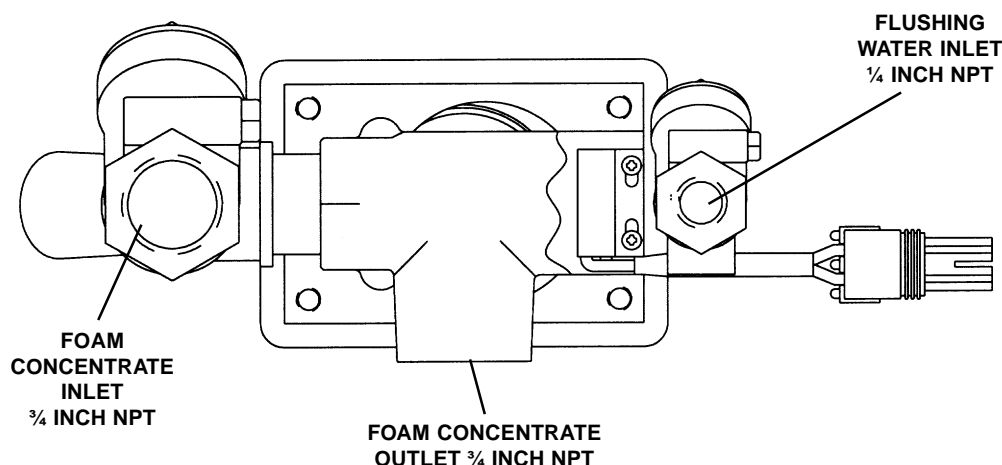

Figure 5. Hale FoamMaster MST Flush Selector Valve (Back View)
8. Install brass, 300 series stainless steel or nylon hose barb fitting for the hose from the foam concentrate tank to the inlet of the check valve. (See figure 5) The check valve inlet has $\frac{3}{4}$ inch female NPT threads. Use clear hose with $\frac{3}{4}$ or 1 inch (19 or 25 mm) minimum inside diameter that is capable of withstanding 23 inches (584 mm) Hg vac/50 PSI (3 BAR) working pressure (Kuriyama, Kuri-Tec K-7130 series or equal).